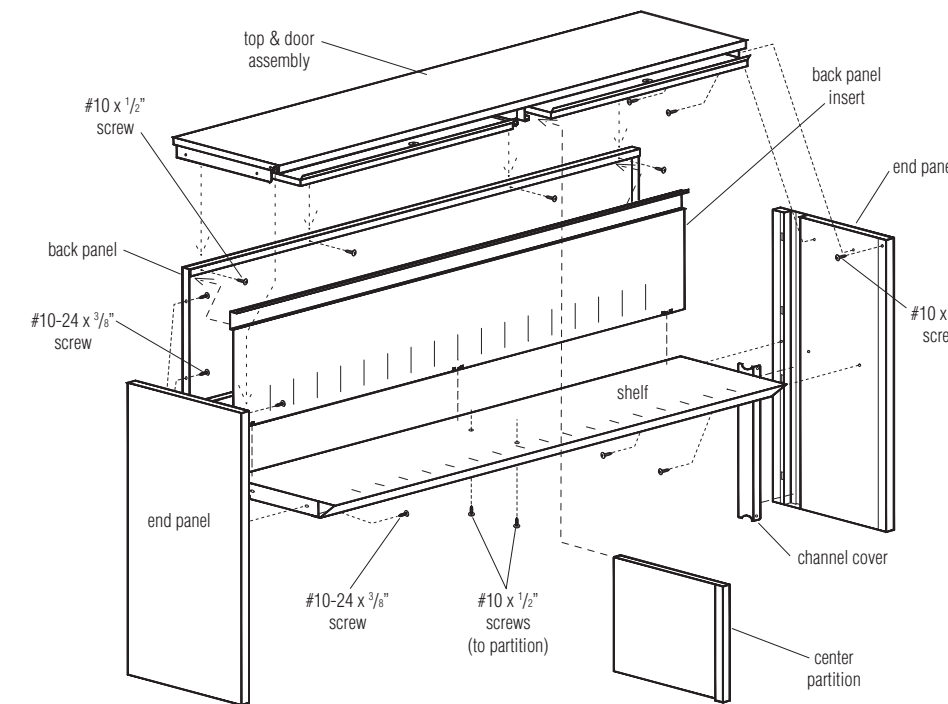

Figure 1
1. Carefully unpack all contents from packaging, then locate and identify the parts shown in Figure 1.
**Note:** Two persons are required to assemble the overhead storage unit. Figure 1 illustration is shown in the upright position, though assembly steps 3 & 4 are easier if parts of unit are oriented as if unit is lying on its back while securing together.
2. Remove channel covers from end panels, then attach back panel to each end panel using two #10-24 x 3/8" screws per side (figure 1).
4. Take the back panel insert in hand and bend the tabs on the bottom of the panel so they stick out at the bottom, and will fit into slots on the shelf. Then, slide the back panel insert into the back panel as illustrated (Figure 1 & Detail A).
5. Begin installing the overhead top & door to the unit by loosely inserting one #10 x 1/2" screw into each top front corner, at the inside of each end panel. Also loosely insert four #10 x 1/2" screws along the top, inside edge of the back panel. Then, set the top & door assembly into place, interlocking the loose screws in back panel, and the screws in the front of the side panel with the slots in the top & door assembly (Figure 1).
6. Firmly press top down at front corners to make top & door assembly flush with unit. At one end of the inside, at the top side bracket flange under the top & door assembly, insert two #10 x 1/2" screws through the flange and thread into the top of the end panel. Repeat at other inside of top & door assembly and tighten all four screws (Figure 1).
7. Next tighten the previously inserted #10 x 1/2" screw at the top, front of each end panel, and at the four previously inserted #10 x 1/2" screws at the top, front edge of the back panel (Figure 1).
8. If overhead being assembled is a two door unit, a center partition must be installed. Slide the center partition into place in the center channel under the top & door assembly, with bottom of partition resting on shelf. Secure partition in place with two #10 x 1/2" screws as illustrated (Detail B & Figure 1).
9. To secure partition bottom in place, use two #10 x 1/2" screws through the underside of the shelf, and into the partition (Figure 1).
10. Replace channel covers to end panels under shelf (Figure 1).